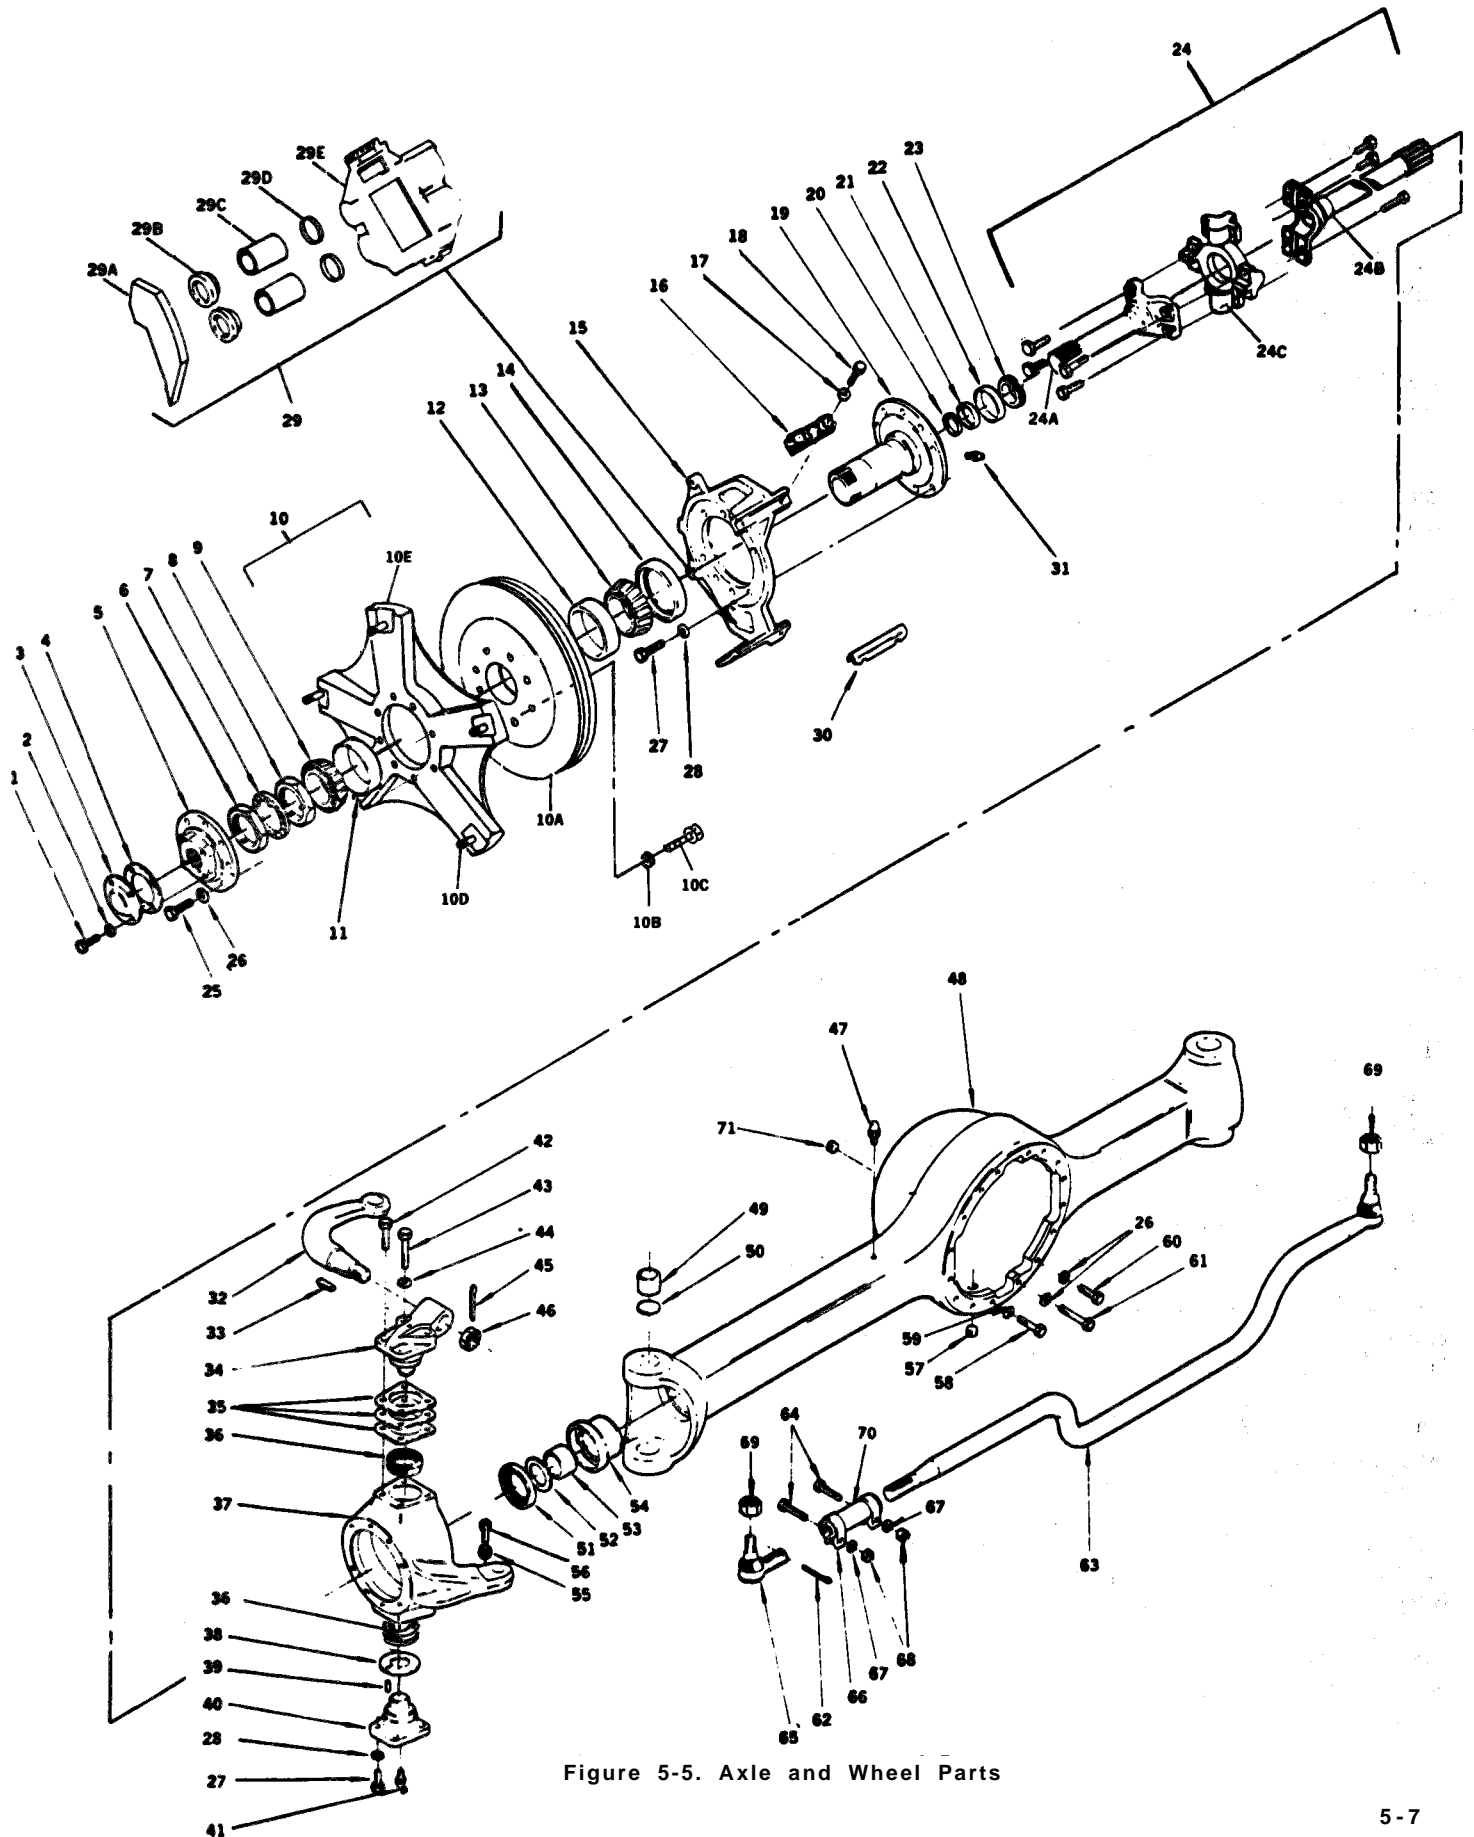

Figure 5-5. Axle and Wheel Parts
f. Remove plug (57, figure 5-5) and drain oil into container.
k. Remove key (30, figure 5-5) capscrews (18), lockwashers (17), retainers (16), and brake caliper (29). Repair brakes per section 7, Brake System.
l. Remove capscrews (1), washers (2), cap (3), and gasket (4). Tap cap (3) with rubber mallet if needed.
m. Remove capscrews (25), washers (26), and flange (5).
- q. Remove bolts (18, figure 5-5), washers (17) retainers (16), slide keys (30) and brake caliper assemblies (29).
- r. Remove bolts (25), washers (26) and flange (5). Bolts (1), washers (2), cap (3) and gasket (4) need not be removed.
- s. Remove nuts (6) and (8) and lockwasher (7) and pull off wheel hub assembly (10), including bearings (9) and (13), bearing cups (11 and 12), and oil seal (14).
- e. Inspect rod end (65, figure 5-5) for damage. Ensure that seal is securely seated. Replace rod end if seal is damaged. Check torque value between rod end stud and ball cavity. If torque value is less than five inch pounds, replace rod end.
LEGEND FOR FIGURE 5-5
1. Apply silicone RTV gasket material in a 1/8-inch bead completely around mating surface of axle housing (48, figure 5-5).
Do not use excessive pressure to install oil seal (51, figure 5-5) or tap seal after it has bottomed. This will crush the seal retainer resulting in seal damage.